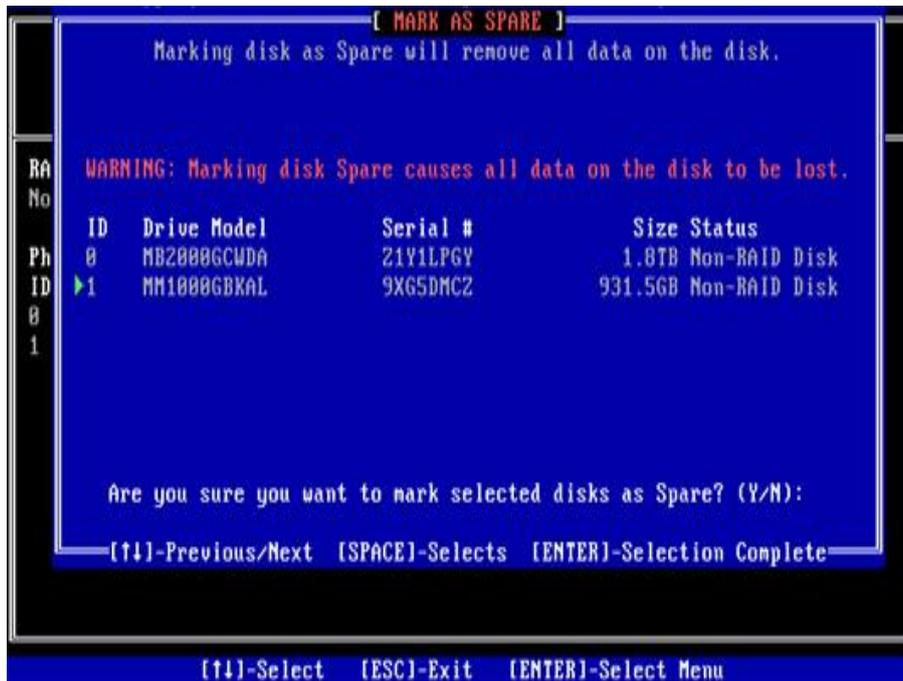

Fig.6.21
- c) Enter interface shown in Fig. 6.21, select disks to be configured as hot spare and press SPACE, then press Enter. In the prompt bar that appears, enter y and press Enter to complete the hot spare configuration.